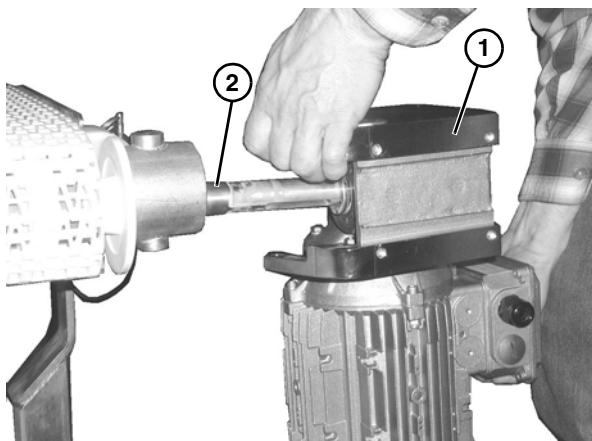

Figure 11
2. Slide the gearmotor assembly (**Figure 11, item 1**) onto the drive spindle (**Figure 11, item 2**).